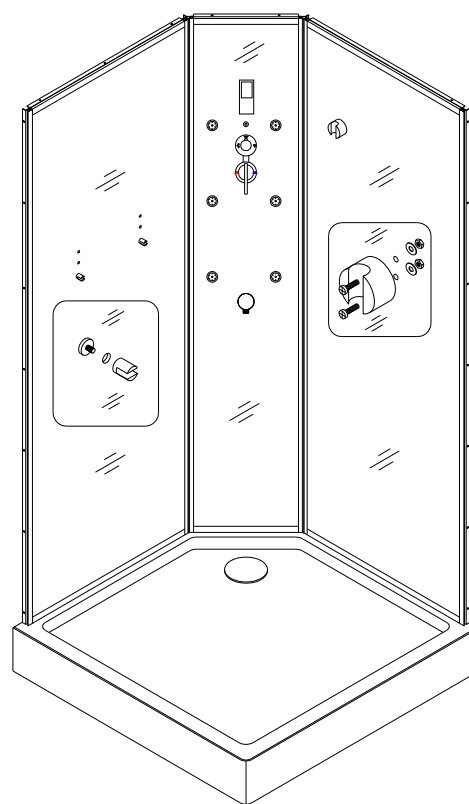

Fig 5
8. Repeat Step 7 to install the **Right stationary glass (3)**. Attach the **Glass bracket (13)** to the left stationary glass and the **Hand shower bracket (14)** to right stationary glass. See Fig 5 for details.